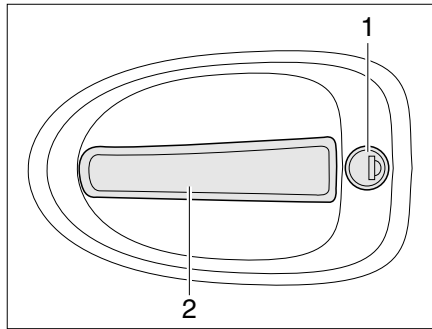

Fig. 48 Door lock of driver's door, outside
- Insert the key into locking cylinder (Fig. 48,1) and turn until the door lock is unlatched.
- Pull on the handle (Fig. 48,2). The door is open.
- Insert the key into locking cylinder (Fig. 48,1) and turn until the door lock is engaged.